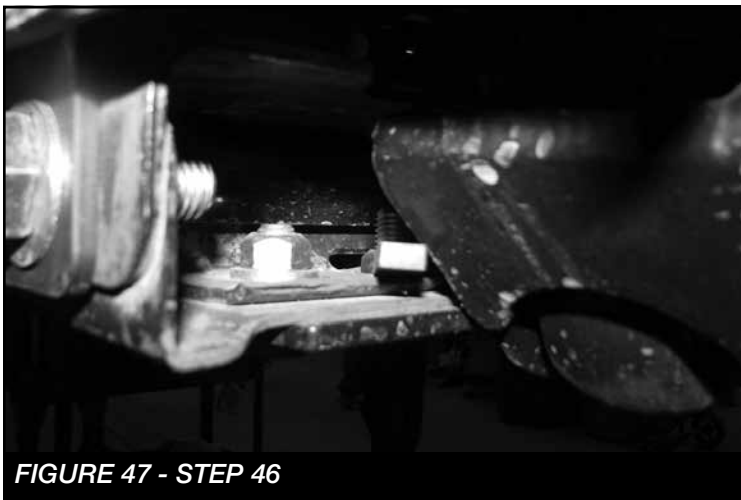

FIGURE 47 - STEP 46
46. Next for the passenger side locate FT30182 (nut tab) (2) 1/2-13 X 1-1/2", washers and (1) 1/2" C-lock nut. Torque to 90 ft-lbs. **SEE FIGURE 47**